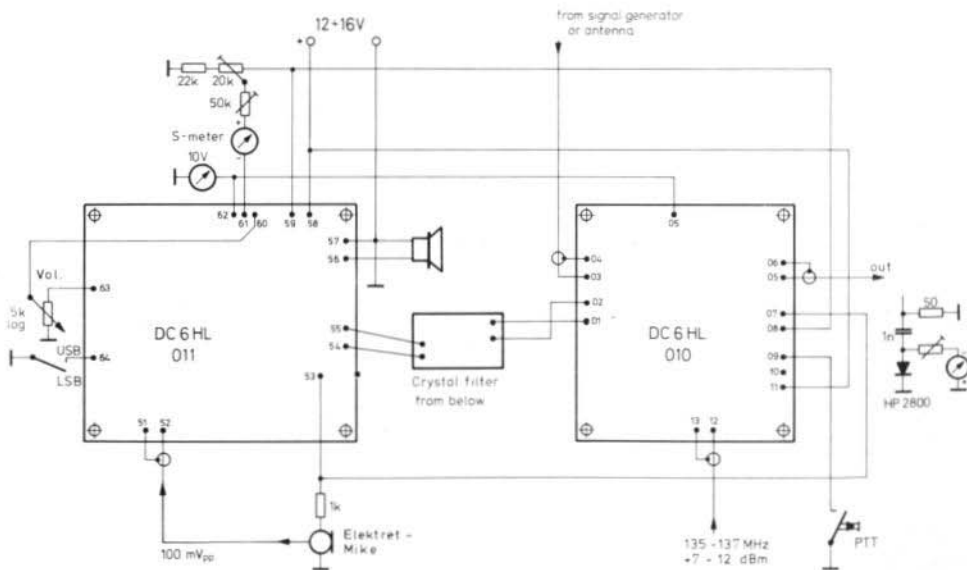

Fig. 8: Wiring diagram of the transceiver; the crystal filter is to be seen in the center.
- a) Wire both boards according to **Figure 8**.